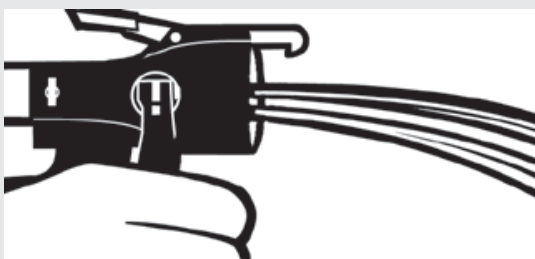

Figure 4.
5. Purge the system into a waste container by activating the trigger of the INSTA-FLO™ Dispenser. When streams are equal, release the trigger, clean the chemical from the dispenser face with a clean rag, and reapply petroleum jelly. (See figure 4)